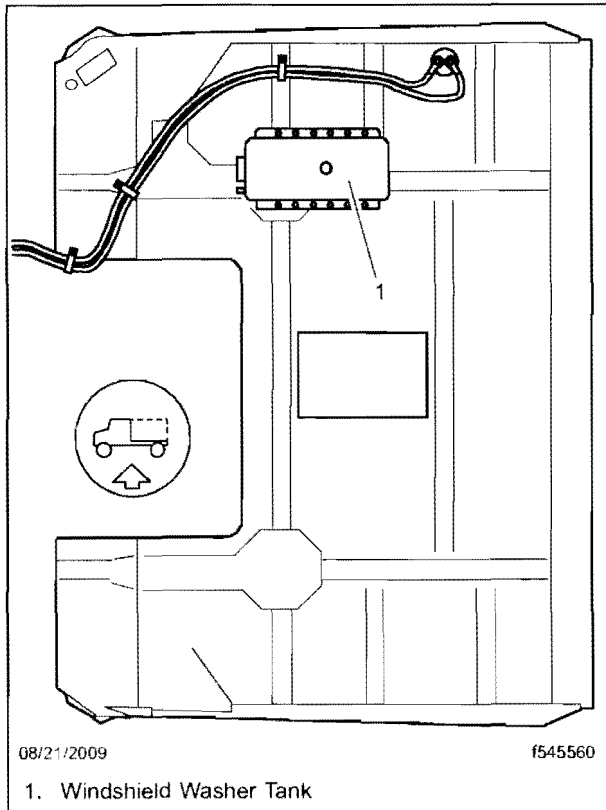

Fig. 7, Cable Routing, Bottom View
18. Install the remaining clamps on the edge of the engine tunnel making sure there is clearance between the engine and the cables. Tighten the p-clamp nuts 12 lbf·ft (16 N·m). See **Fig. 7**.